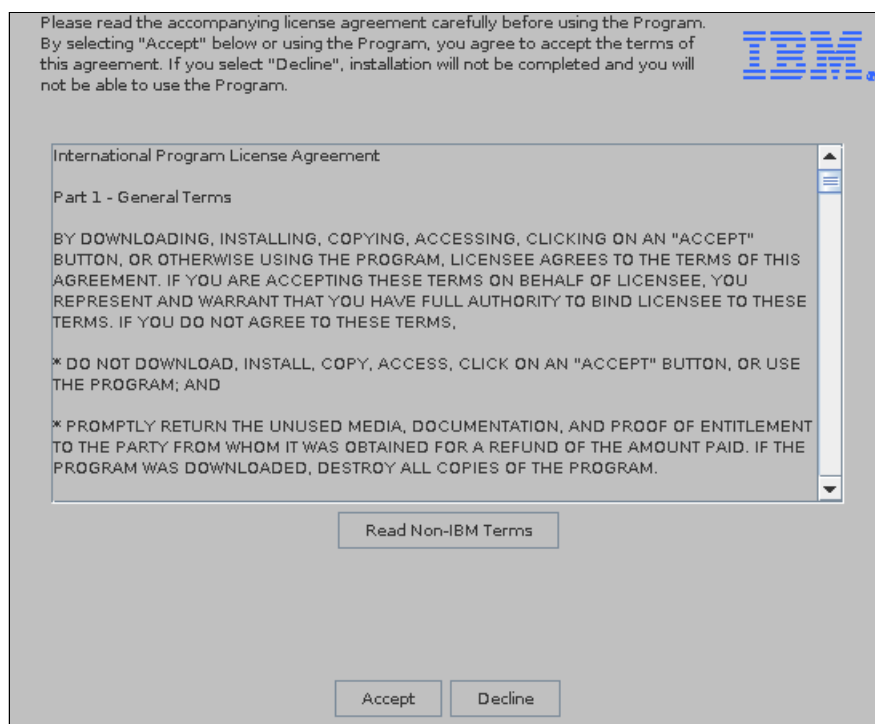

Figure 3-78 Accept License window
7. Read the license agreement, and click **Accept** (Figure 3-78).